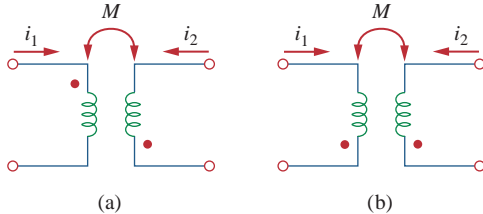

Figure 13.69
- 13.1** Refer to the two magnetically coupled coils of Fig. 13.69(a). The polarity of the mutual voltage is:
- 13.2** For the two magnetically coupled coils of Fig. 13.69(b), the polarity of the mutual voltage is: